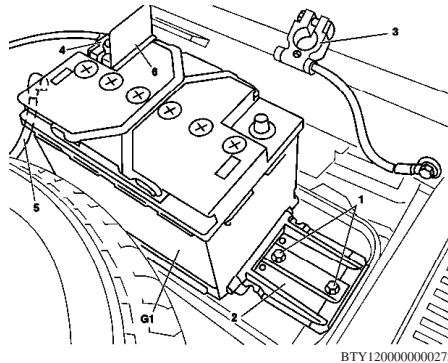

Fig. 1 Battery removal
6. Remove mounting bolt (1) and battery hold down (2), Fig. 1.
7. Disconnect ground cable (3) at battery, Fig. 1.
8. Disconnect positive cable (4), Fig. 1.
9. Detach vent pipe (5) at battery, Fig. 1.
2. Attach vent pipe (5) at battery, Fig. 1.
3. Connect positive cable (4), Fig. 1.
4. Connect ground cable (3) at battery, Fig. 1.
5. Install mounting bolt (1) and battery hold down (2), Fig. 1.